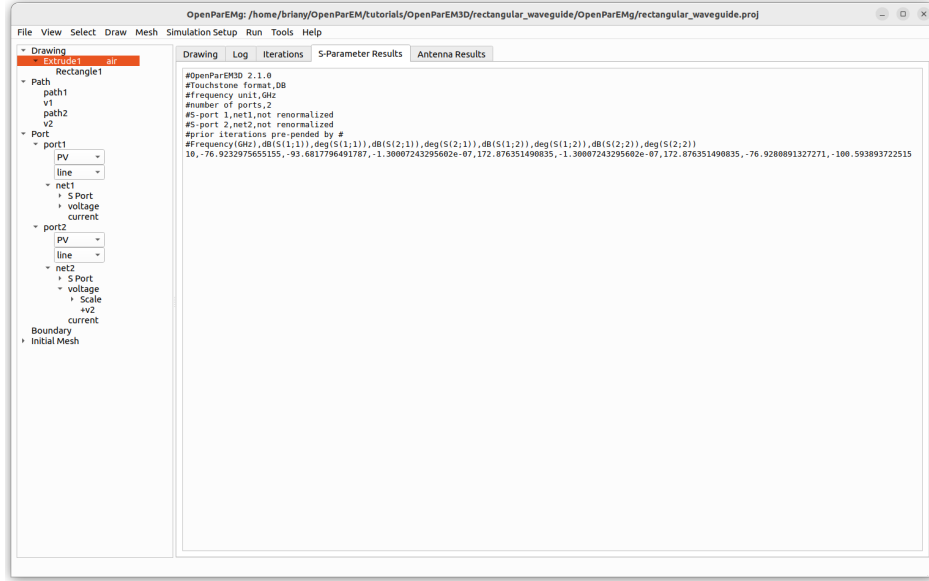

Figure 5: Computed results for the rectangular waveguide.
- The simulation results should be very similar to those shown in Fig. 5. Note that the results will not be exactly the same due to the iterative solution in combination with MPI processing.